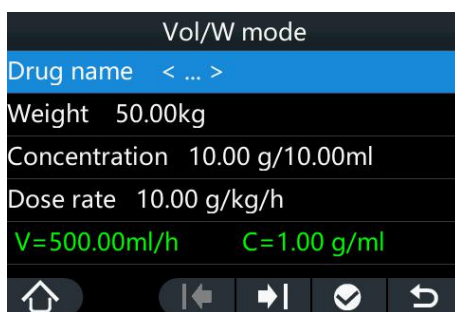

Figure 5-3
- Select menu “” option → “Mode” → “Vol/W mode” to enter the interface as shown in Figure 5-3. Users can set the drug name, weight, concentration, dose rate and other parameters according to actual needs.